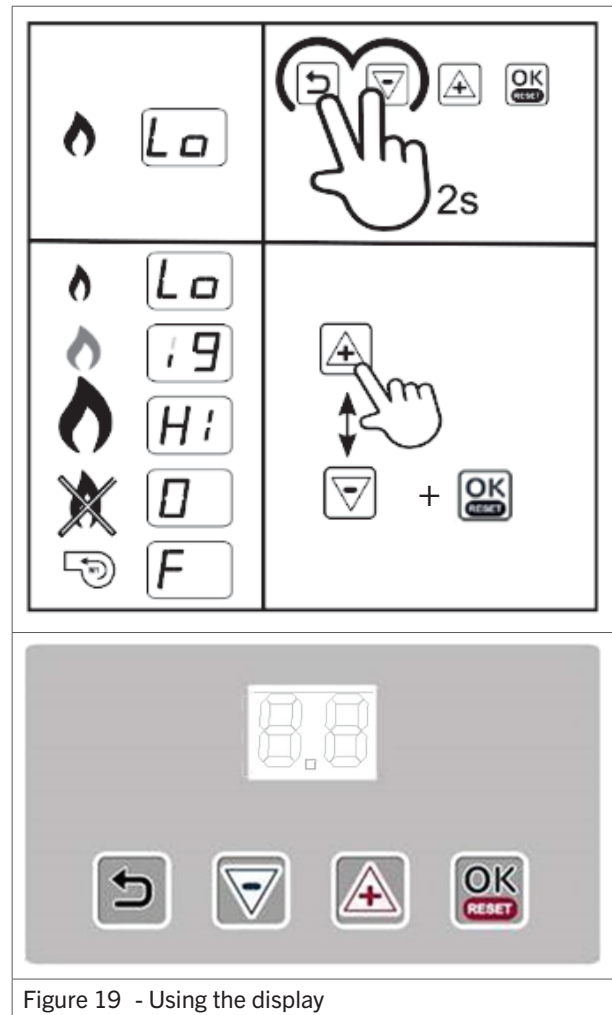

Figure 19 - Using the display
1. Press and hold the **Return** and (–) button for a few seconds (figure 19). The display will alternate between Lo and St. This means the heater will start up in Low fire.
2. Press the (+) and (–) buttons to toggle between Low and High fire (figure 19).